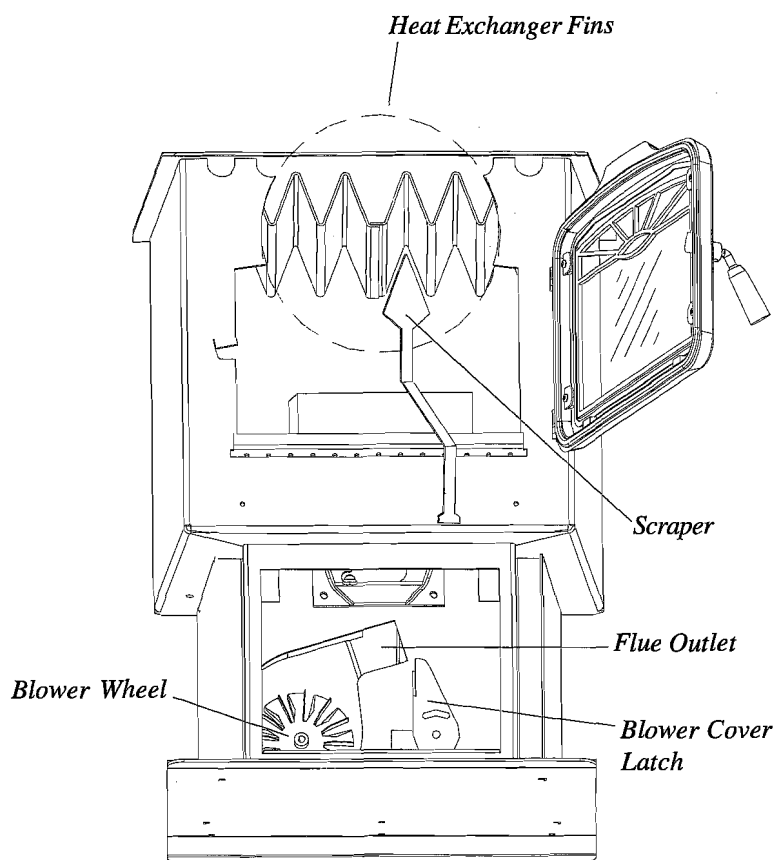

Fig 27
3. Remove combustion blower cover by turning the blower cover latch vertical as shown in Fig.26 and sliding the cover out of the slot on the left. This will expose the combustion blower wheel and flue outlet, Fig.27.
5. Use a brush to clean the flue, being careful not to damage the ESP probe. The flue goes straight through into the vent pipe (Fig.27) therefore, the vent pipe can also be cleaned to some extent through the flue outlet.